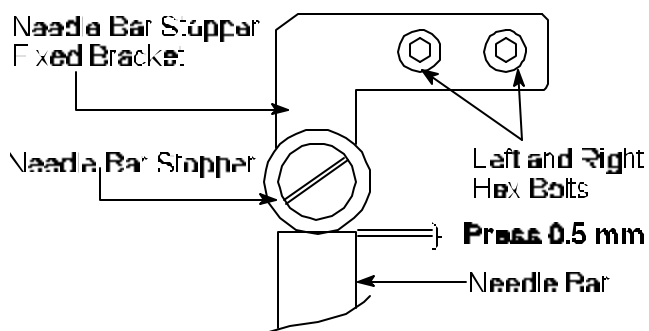

Figure 10
27. Press down on *clear* roller approximately 0.5 mm to top of Needle Bar Assembly then secure hex bolts. See *Figure 10*.